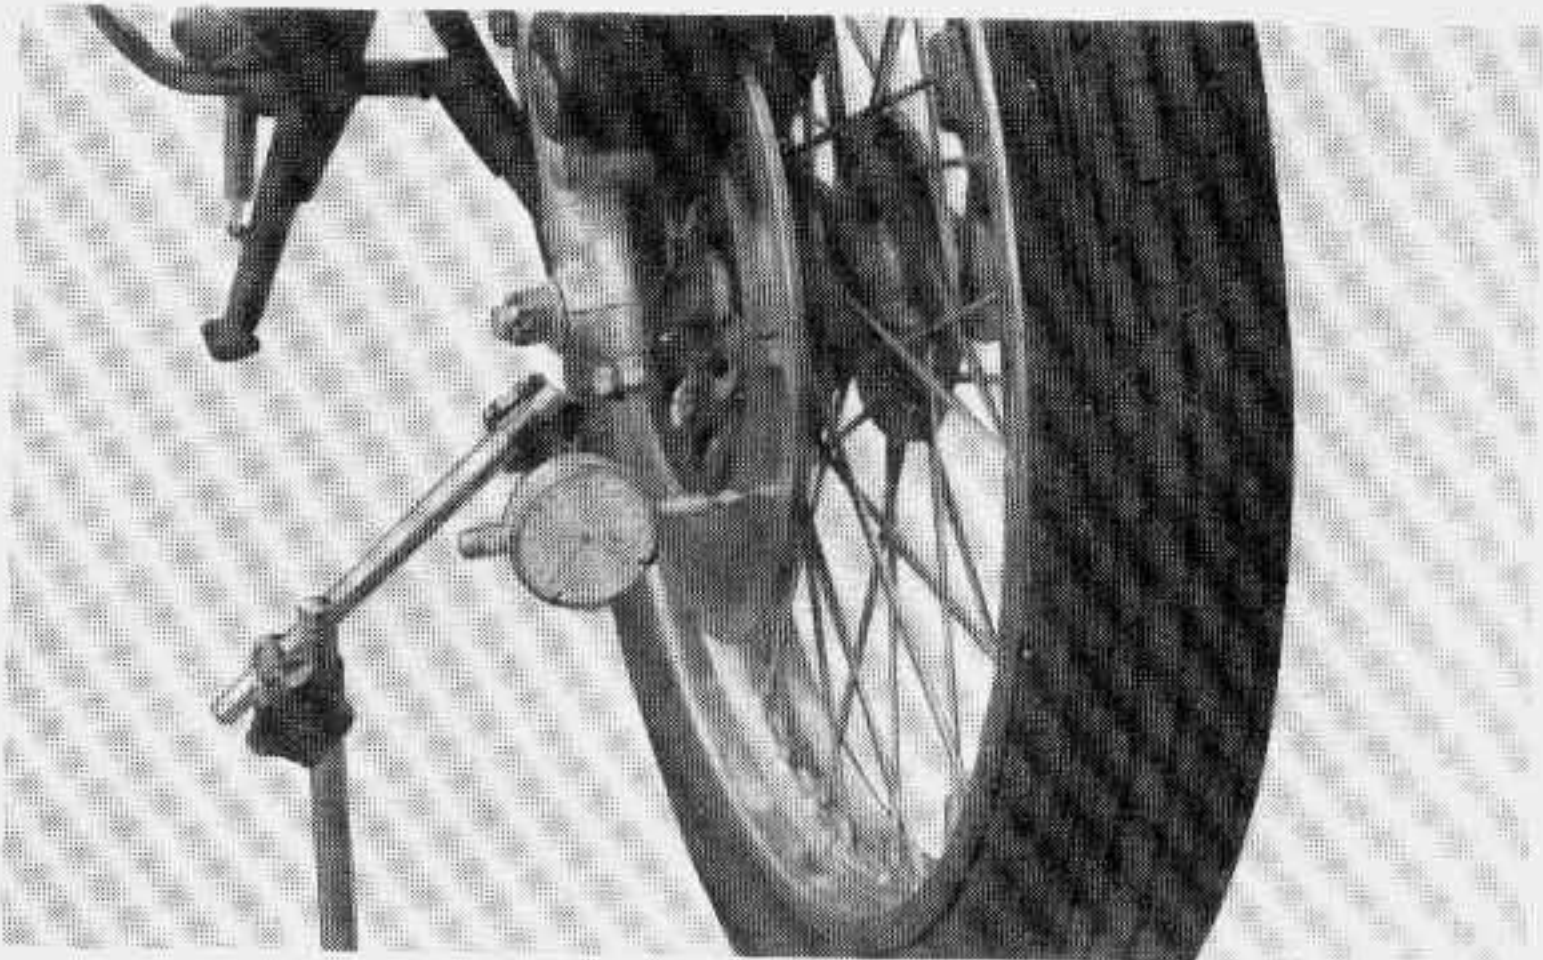

Fig. 8-2-30.
- a) Runout of the brake disc should be not greater than the limit. Measure brake disc runout with a dial indicator as shown in Fig. 8-2-30. If the runout is over the limit on the largest periphery of the disc plate, check whether the cause lies in the front wheel bearing or the brake disc itself, and replace defective parts.